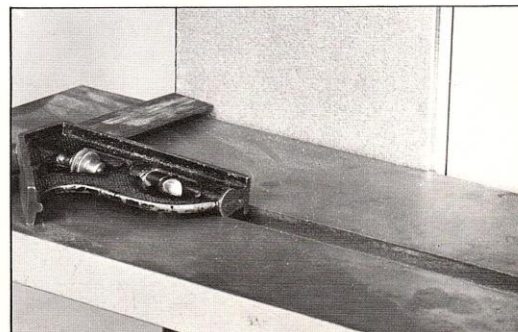

Fig. 18.
1. Check to see if the miter gage slot is parallel with the sanding belt by placing a square in the miter gage slot with one end of the square against the belt, as shown in Fig. 18.